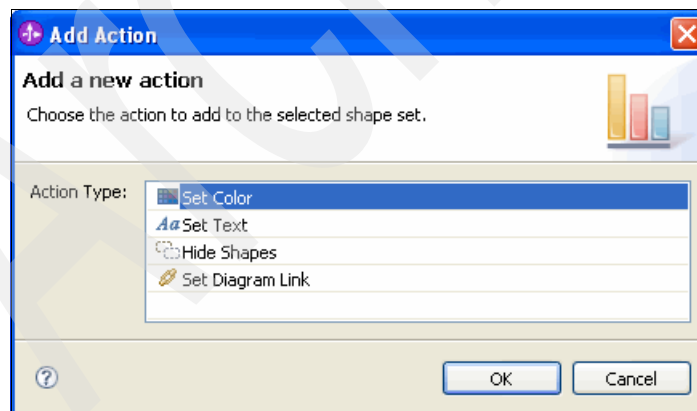

Figure 8-127 Adding the **Set Color** action
- b. In the Add Action window (Figure 8-127), click **Set Color** and click **OK**.